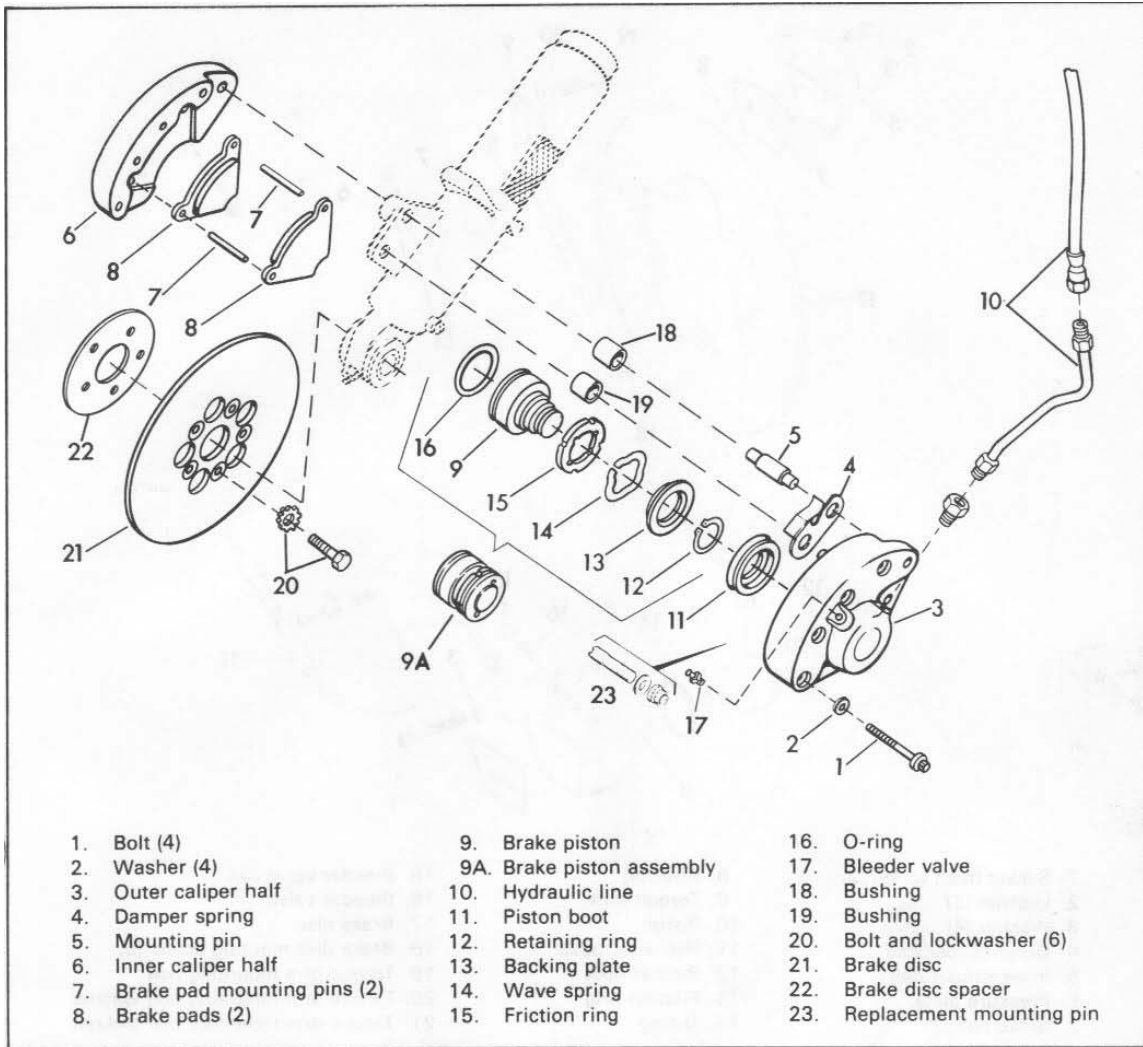
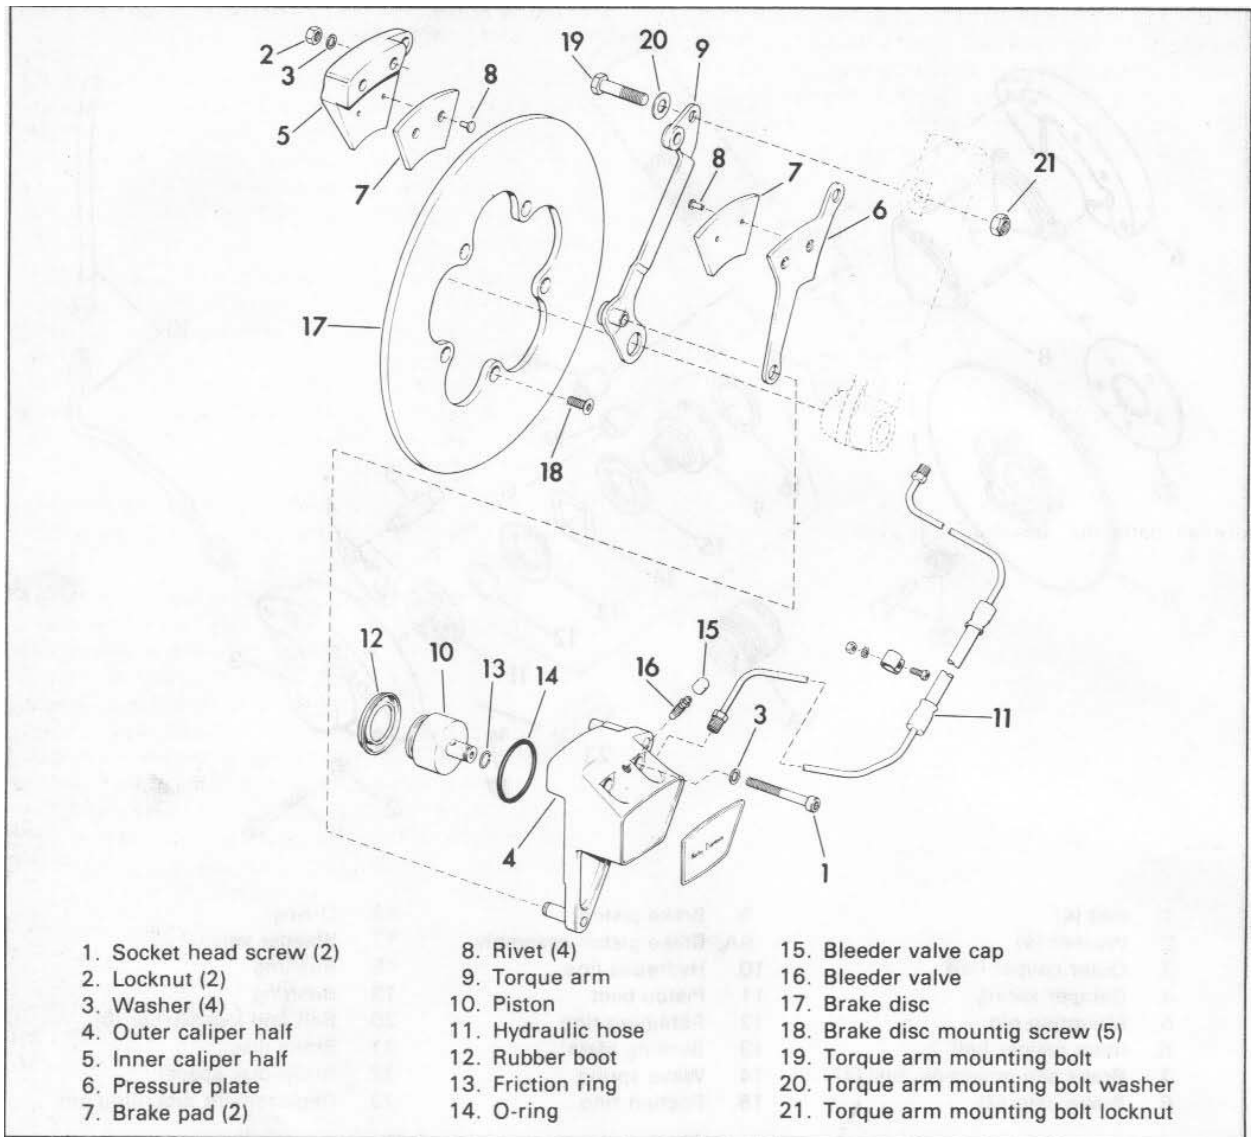

Figure 2-61. Front Disc Brake (1973) - Exploded View
Figure 2-62. Front Disc Brake (1974 to 1977)
Two types of disc brakes are used. The following description applies to Figure 2-61 brake. Figure 2-62 brake operates in a similar manner.
**DISASSEMBLING AND ASSEMBLING DISC BRAKE CALIPER - 1973 (Figure 2-61)**
#### DISASSEMBLING AND ASSEMBLING DISC BRAKE CALIPER (1974 TO 1977) (Figure 2-62)